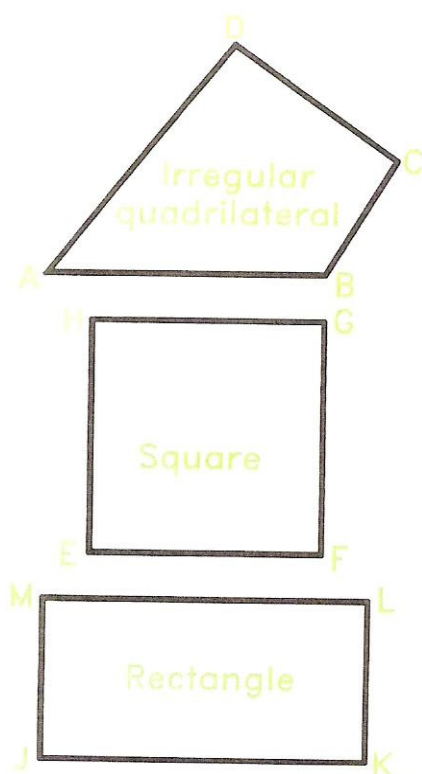
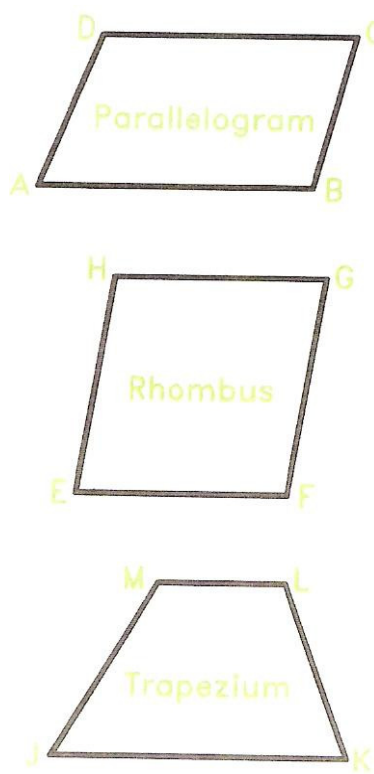

Figure 20 - Types of Quadrilateral 1
Figure 21 - Types of Quadrilateral 2
Figure 20 and Figure 21 both show a number of different types of quadrilateral.
- **Square** - all sides the same length; opposite sides are parallel- in EFGH of Figure 20, EF is parallel to GH and FG is parallel to EH; all angles are right angles = 90 degrees.
- **Rectangle** - all angles are right angles; opposite sides are of equal length; opposite sides are parallel - in JKLM of Figure 20, JK is parallel to LM and KL is parallel to JM.
- **Parallelogram** - Each pair of opposite sides are parallel - in ABCD of Figure 21, AB is parallel to CD and BC is parallel to AD; opposite angles are of equal size - in parallelogram ABCD of Figure 21, angle at A = angle at C and angle at D = angle at B; angles on the same side add up to 180 degrees - angle A + angle B = 180 degrees and so on.
- **Rhombus** - a parallelogram in which all sides are the same length; opposite angles are equal - in EFGH of Figure 21, angle at E = angle at G and angle at F = angle at H; the diagonals of a rhombus bisect each other at right angles.
- **Trapezium** - One pair of opposite sides is parallel- in the example JKLM of Figure 21, JK is parallel to LM.